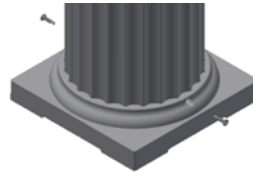

Fig. 4
**Step 6** Slide base to bottom of column and insert 2 screws into base as shown. (See Fig. 4) Repeat for capital at the top of column.